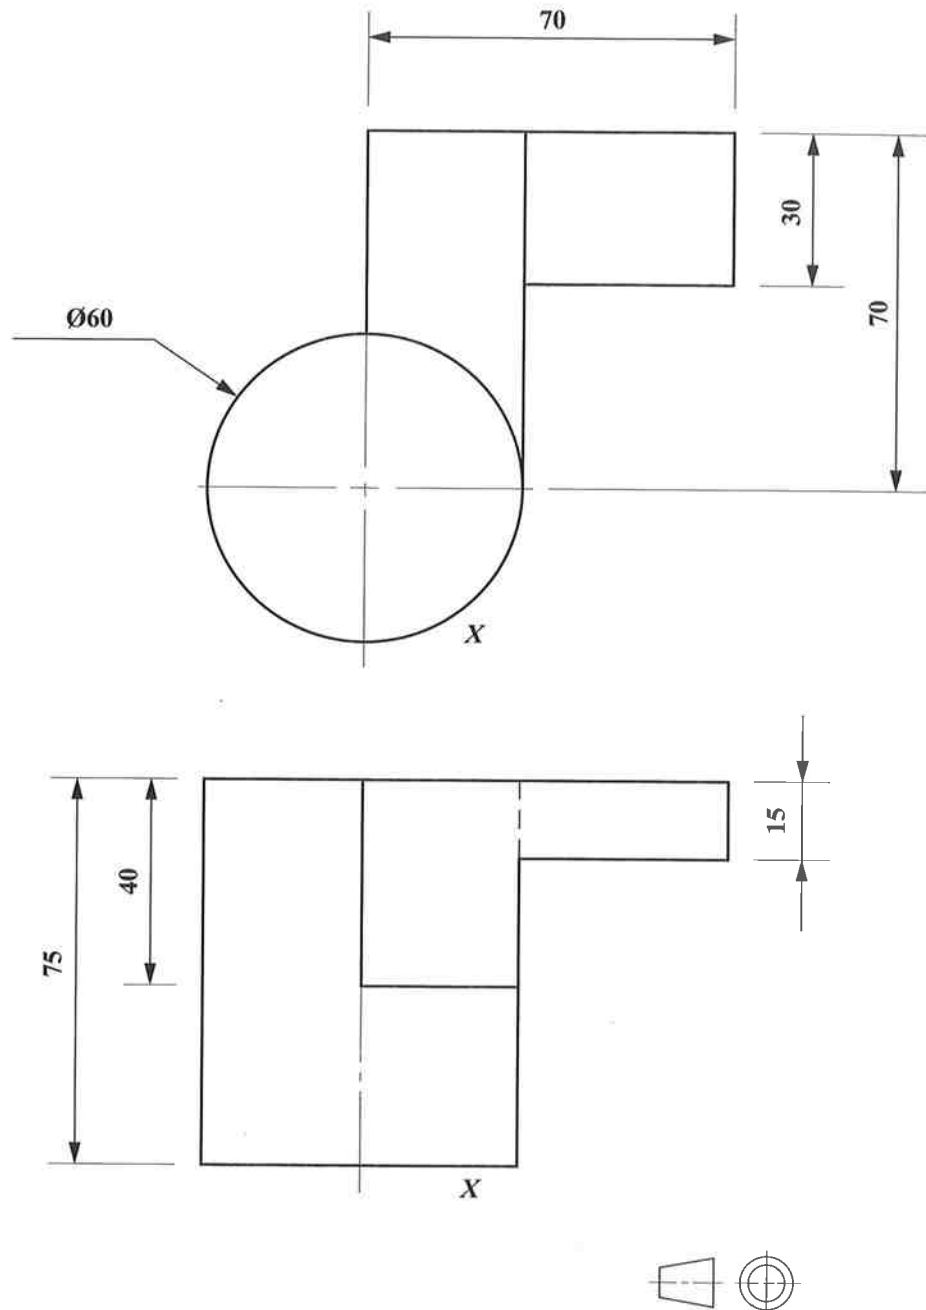

Figure 7
8. **Figure 7** shows two orthographic views of a Location Bracket.